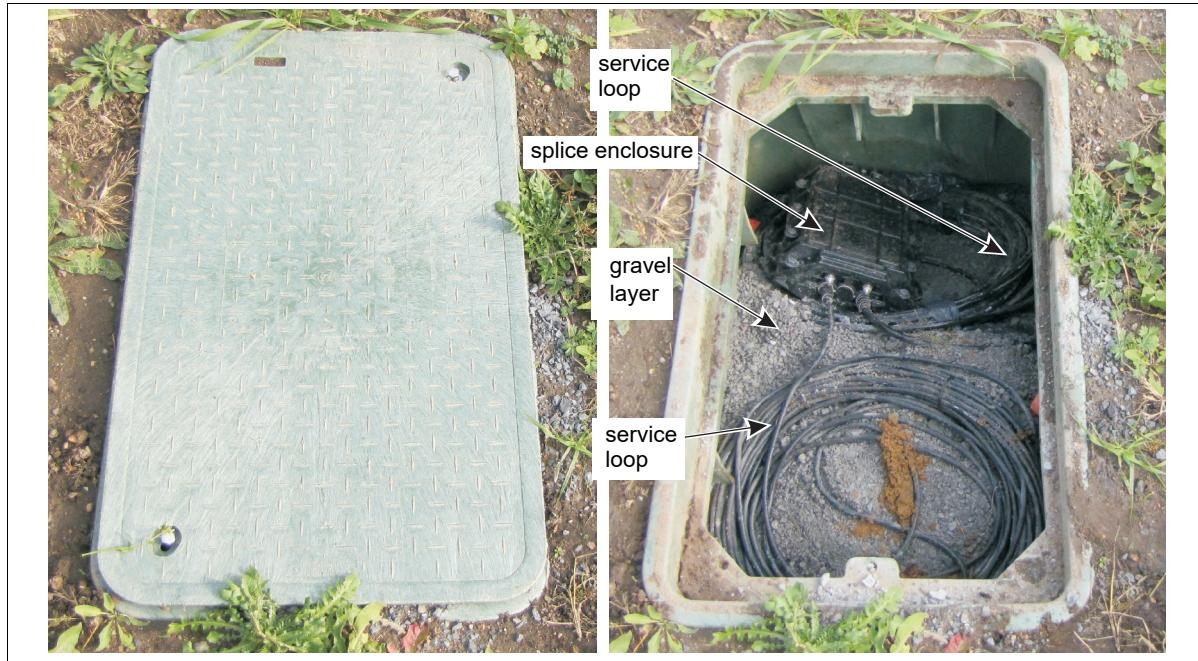
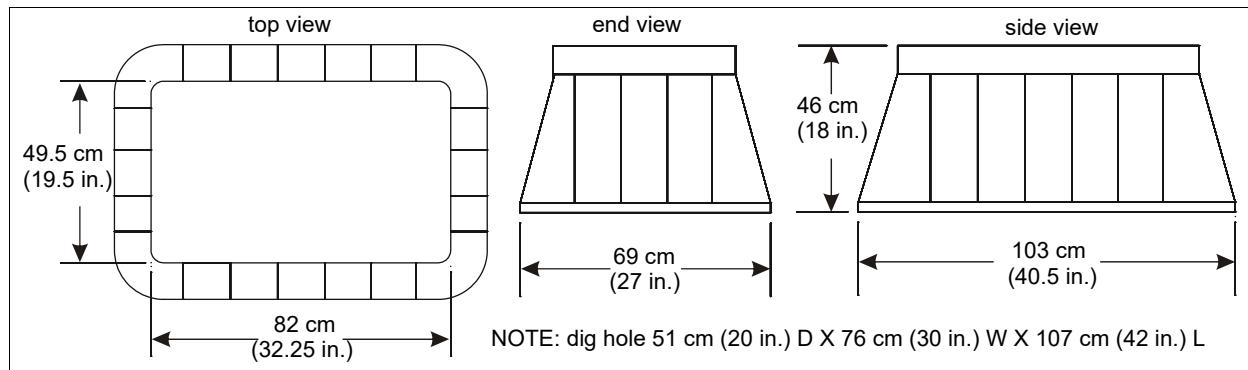

Figure 67: Ground level buried vault closed and open
Figure 68: Buried vault dimensions
- for outdoor splices the weatherproof enclosures are protected inside buried vaults (see Figure 67: and Figure 68: